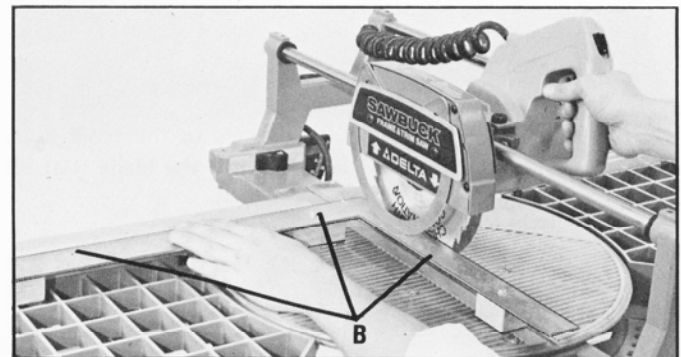

Fig. 26
1. Move the arm to the straight cut-off position, as shown in Fig. 26. Make sure the arm lock lever engages the 0 degree index stop but do not tighten the arm lock knob. Make sure the fence is locked in position.
2. Place a framing square (B) on the table with one end of the square against the fence and the other end against the saw blade, as shown in Fig. 26.